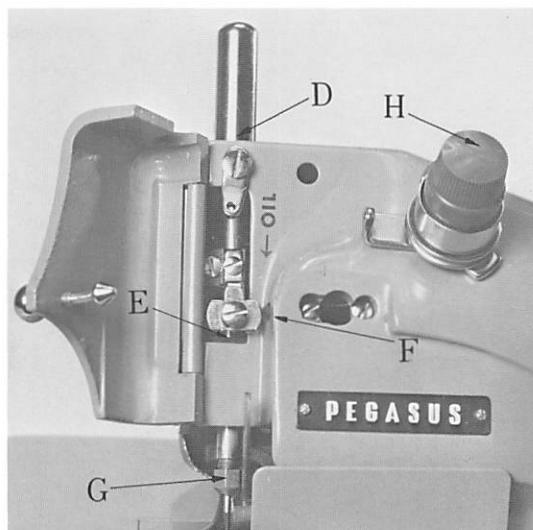
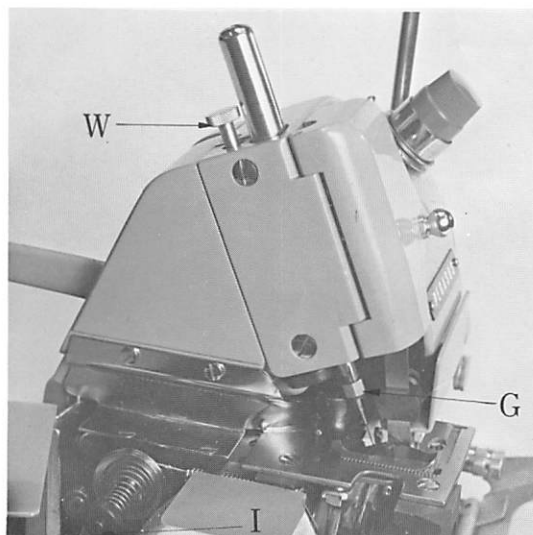
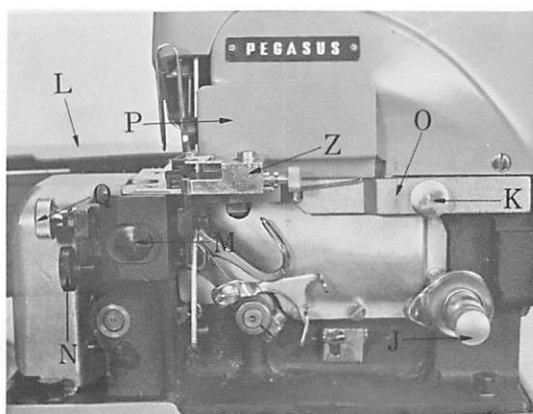

Fig. 2
Fig. 3
Fig. 4
Needle Bar Bushings (upper and lower)..... Fig. 2, D and E
Needle Bar Connecting Link..... Fig. 2, F
TO CHANGE THE NEEDLE (See Fig. 2 or 3)
Turn balance wheel in operating direction until needle bar is at its highest position. With wrench, furnished with machine, loosen needle clamp nut (Fig. 2 or 3, G) about 1/4 turn and withdraw needle.
(See Fig. 2, 3 & 4)
The amount of tension on needle and looper threads is regulated by each tension nut (Fig. 2, H, Fig. 3, I and Fig. 4, J). Tension on threads should be only enough to secure proper stitch formation. In general for DCP-100 series proper stitch formation will be obtained by tightening needle tension nut (Fig. 2, H) and loosening looper thread tension nuts (Fig. 3, I and Fig. 4, J).
TO REGULATE THE PRESSURE OF PRESSER FOOT (See Fig. 3)
Pressure of presser foot on material is regulated by means of thumb nut (Fig. 3, W). To increase pressure, turn thumb nut (W) clockwise or downward. To decrease pressure, turn thumb nut (W) anticlockwise or upward. Too much pressure on presser foot may spoil material.
TO REGULATE THE SEAM WIDTH (See Fig. 4)
Loosen thumb screw (Fig. 4, K), and swing out cloth plate (L) to left. Loosen screw (M) and turn screw (N) until proper seam width is obtained. Lower knife will move to right and left slightly as screw (N) is turned, and upper knife will move simultaneously with lower knife, so no lateral adjustment on upper knife is required when seam width is changed. Tighten screw (M) and move cover extension holder (O) to left so that left edge of cover extension (P) slightly touches upper knife when upper knife is at its lowest position. Tighten thumb screw (K) securely.
TO CHANGE THE LOWER KNIFE (See Fig. 4 & 7)